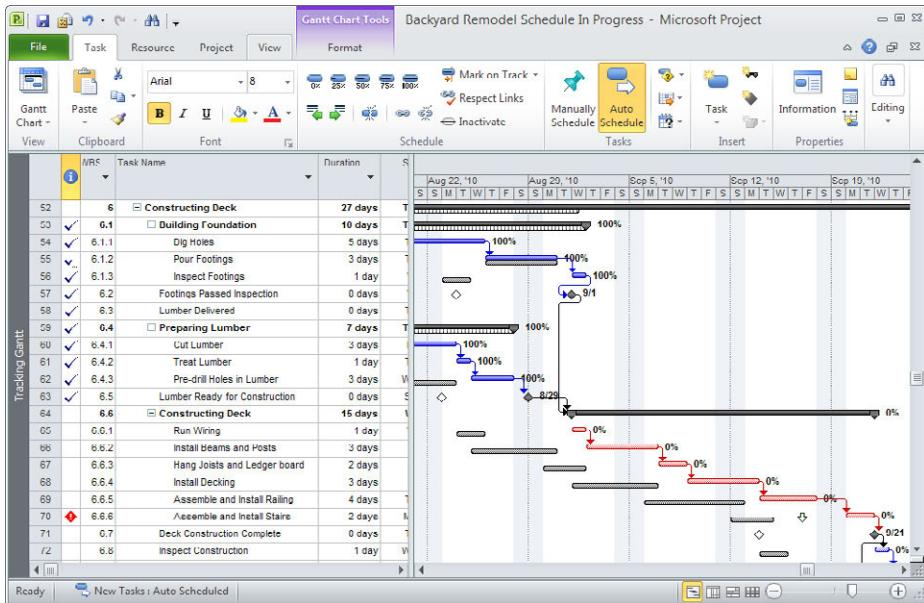

FIGURE 13-1 The Track ng Gantt v ew d sp ays the cr t ca path and nc udes taskbars for the base ne so you can compare actua progress to your plan.
- **Display the critical path and the baseline** The Tracking Gantt view displays gray taskbars for your baseline schedule (as shown in Figure 13-1), blue taskbars for noncritical tasks in your current schedule, and red taskbars for critical path tasks in your current schedule.